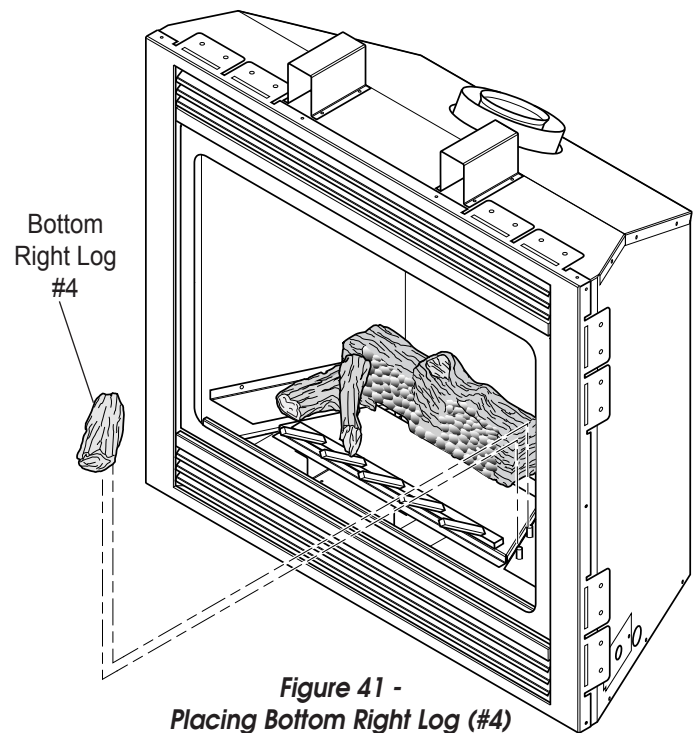

Figure 41 -
4. Place bottom right log (#4) in front of rear log. Line up the holes in the bottom right log with the pins on the log support bracket. See Figure 41.